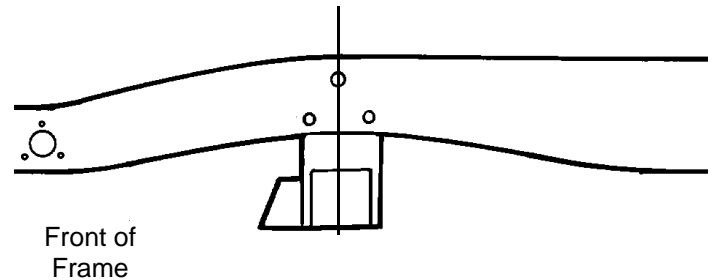

Figure 4
6. Now it is time to start fitting and installing the new crossmember. Slip it up into the frame, center it on the scribed axle center line. See Figure 4. If it does not fit, grind the sides of the crossmember until you can get the crossmember up in place, as shown. Make sure the crossmember is fully seated on the underside of the actual frame lower surface. Figure 4 shows this clearly. Tack weld in place, check location, then weld in place, welding all around both ends, top, sides, and bottom.